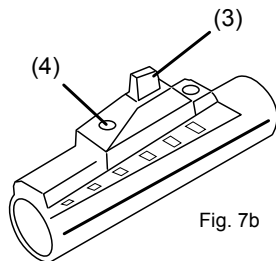

Fig. 7b
– RWS Models 48, 52 and 54 are equipped with an adjustable front sight [(3)-See Fig. 7b]. It can be adjusted by loosening the screw (4), move it by sliding to a lower or higher position. Afterwards retighten the screw.